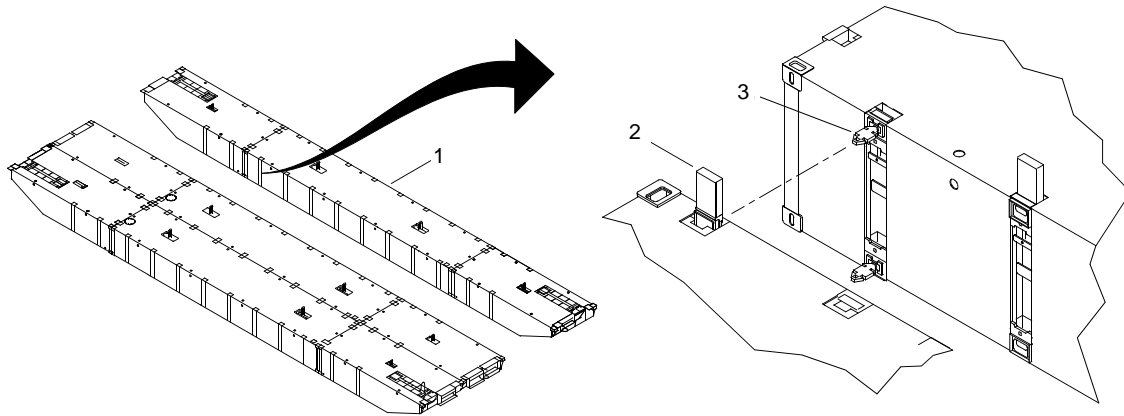

Figure 14. Assembly of Intermediate Section on a Sealift Vessel
1. Position module string (figure 14, item 1) so that female connectors (figure 14, item 2) align with male connectors (figure 14, item 3) on the other module strings (figure 14, item 1).